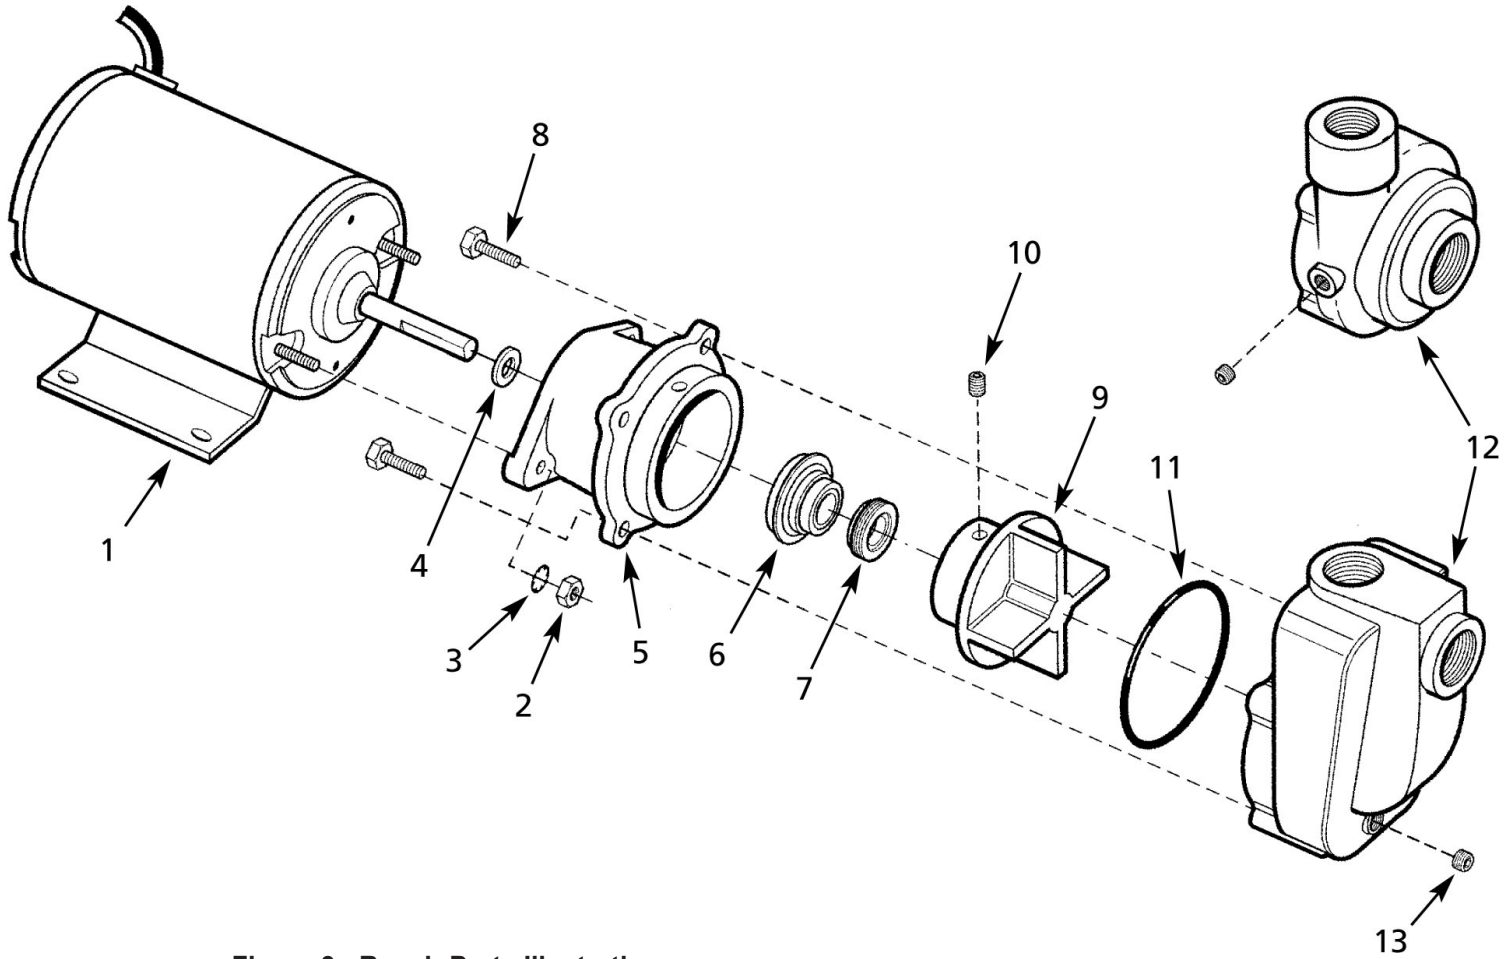

Figure 3 - Repair Parts Illustrations
9. Press seal seat squarely into cavity in impeller (See Figure 3). If seal seat does not press squarely into cavity, it can be adjusted in place by pushing on it with a piece of pipe. Always use a piece of cardboard between pipe and seal seat to avoid scratching face of seal seat. This is a lapped surface and must be handled very carefully.
12. Replace impeller providing 0.020" clearance between adapter and impeller (see figure 3), then tighten impeller fastener.